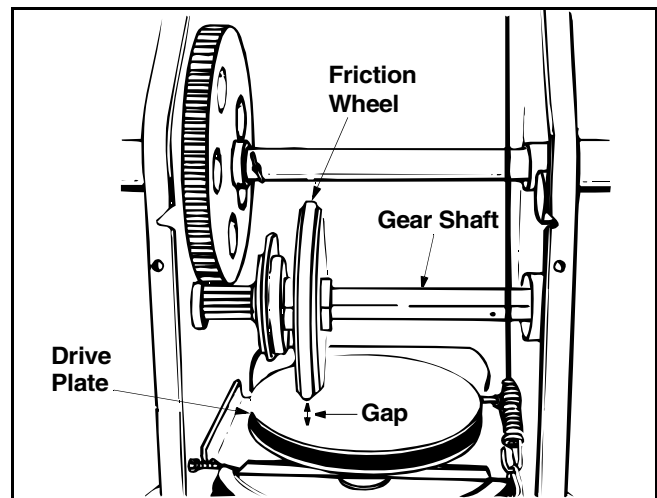

Figure 18
- With the traction control is engaged, the friction wheel must contact the drive plate. See Figure 18.